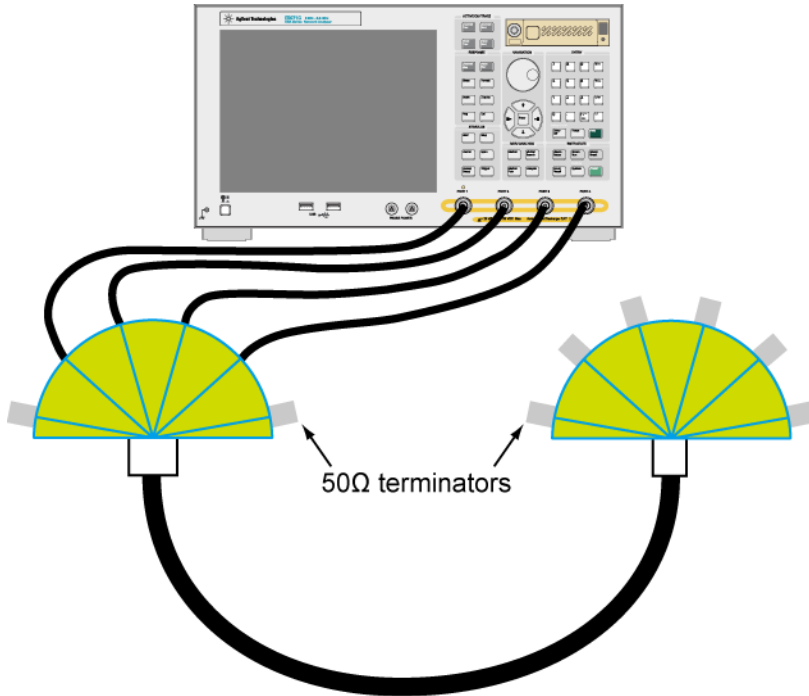

Figure 5-14 Connection Example for Near End Crosstalk measurement
1. Connect the test fixture to the test port cables according to the Figure 5-14 Connection Example for Near End Crosstalk measurement. Unused terminals should be terminated.